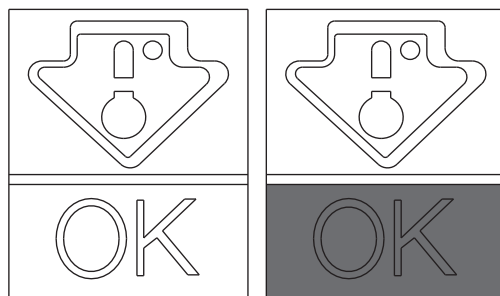

Fig. 5
- To maintain the best flavour, nourishment and freshness of foods, it is advisable to store them in the refrigerator compartment as shown in Fig. 5 below, making sure to wrap them in aluminium or plastic sheets or in appropriate covered containers to avoid cross-contamination.
Check that on the indicator of the temperature, the word OK is clearly shown (Fig. 5). If the word does not appear, this means that the temperature is too high: adjust the temperature to a cooler setting and wait for about 10 hours.